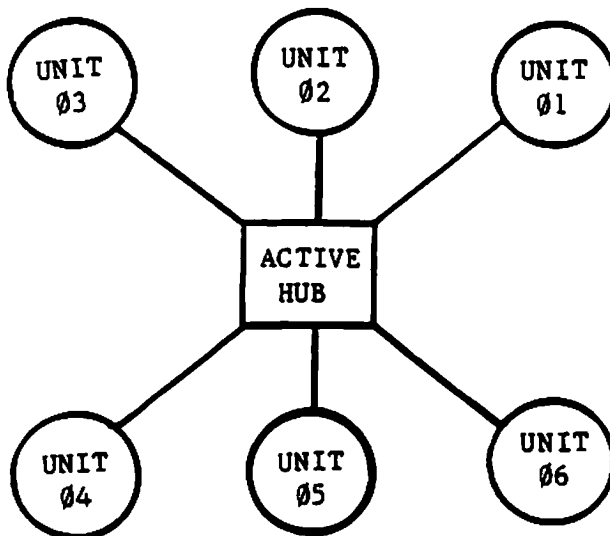

FIGURE 1
Let's see how the token passing works in a small ARCNET™ system. Figure 1 shows an ARCNET™ Active Hub with five Application Processors (AP) accessing one File Processor (FP). Each unit in the ARCNET™ system is given a unique Identification Number (ID) when the unit is installed. Any one ARCNET™ system may have up to 255 units attached, each having a unique ID from 1 to 255 (unit number 0 is not allowed).